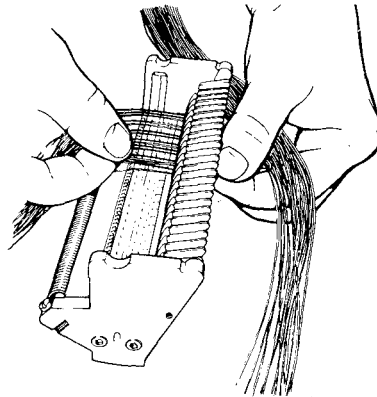

Fig. 22—Place wires into module base.
- b. Hold thumb and forefinger of guide hand close to back of head. Once pair is separated, "TIP" left, "RING" right, draw pair taut into wire channels in the base and down into the wire retainer spring. See Figure 22.